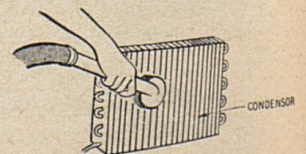
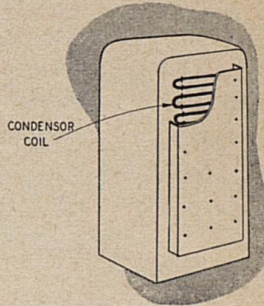
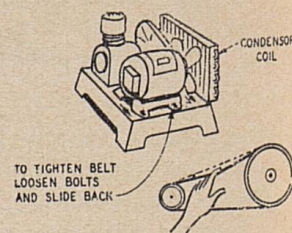
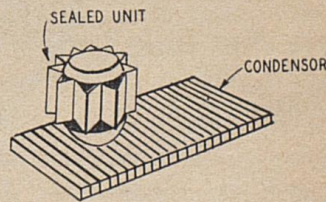

Fig. 40
Fig. 41
Fig. 46
Fig. 47
Remedy: Clean condenser once or twice a year with a long handled brush or vacuum cleaner attachment. Fig. 40. Condenser is usually located at the top, back (Fig. 41), or at the bottom (Fig. 46) of the refrigerator. If necessary, pull refrigerator out from wall.
Remedy: Tighten or replace. Fig. 46. If squeaking noise develops rub soap or belt dressing on the belt.
1. *Lubrication:* If your refrigerator is a belt-driven model similar to that shown in Fig. 46, oil it every two months with 6 to 10 drops of electric motor oil or motor oil of SAE No. 20 weight. Too much oil may damage the motor windings. Sealed units (with no oil cups) as shown in Fig. 47 require no oiling, as oil has been sealed in the unit at the factory.